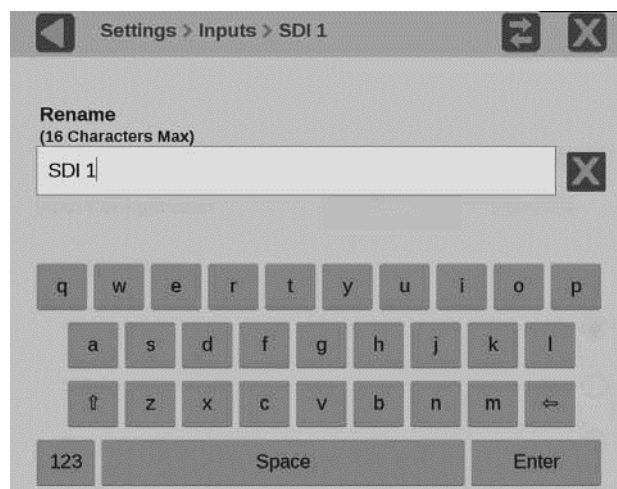

Figure 35: Renaming a signal input
1. Select the **Name** box to open the text editing display, as shown in Figure 35.